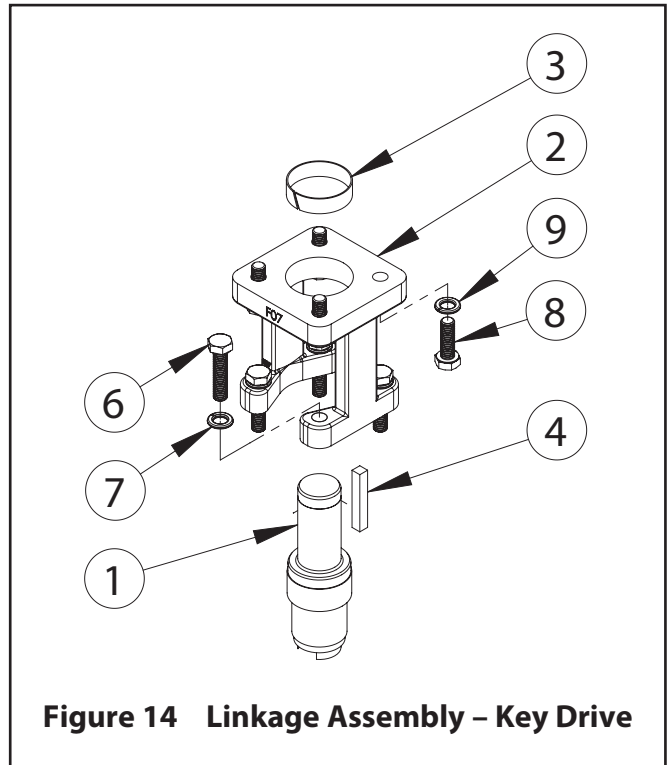

Figure 14 Linkage Assembly – Key Drive
7.3 Bracket Preparation – (see Figure 14)
Key Drive Actuators (Figure 14): Install the key (4) into the key slot of the coupling (1). The key should be filed to closely fit into coupling and actuator keyway. If the fit is loose, apply Loctite® Keyfit or equivalent.